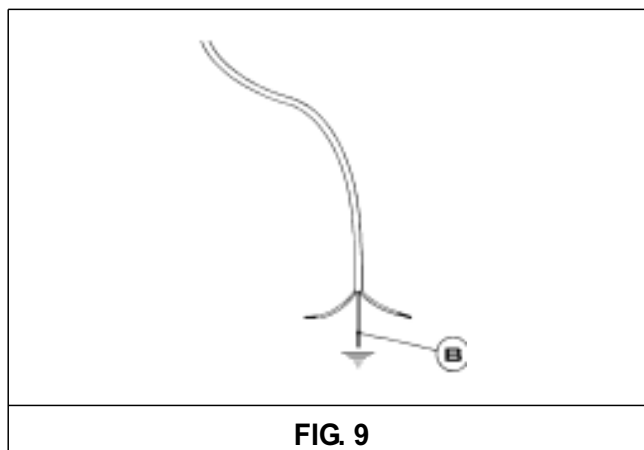

FIG. 9
Note: in the event the power cord is replaced, the ground wire must be left longer than the lead wires (B) (fig. 9) and the instructions in the paragraph "ELECTRICAL CONNECTIONS" must be observed.